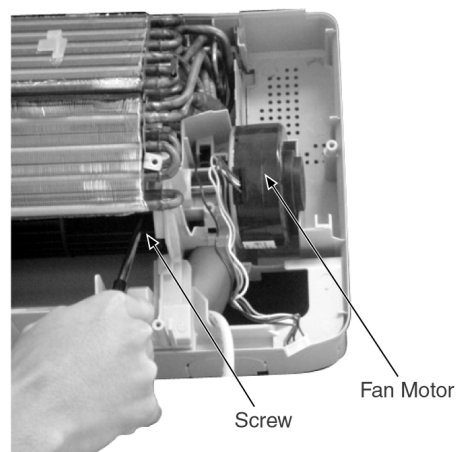

Fig. 8
5. Remove the screw at the Cross Flow Fan. (Fig. 8)
REMINDER - To reinstall the Fan Motor, put it back in place, adjust the position of the Fan Motor's leadwire appropriately as shown in the Fig. 8 before installing the Cross Flow Fan.